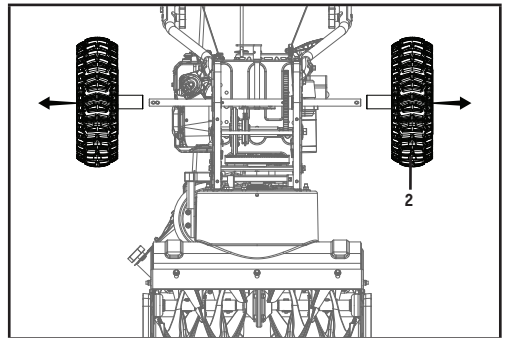

Figure 42B
3. Remove the right wheel (2) by removing the axle pin on it (Fig. 42B).